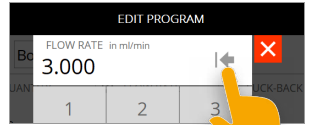

Fig. 40
- ▶ You can clear the set value using the arrow button. Touch and hold the arrow key to clear the value more rapidly (Fig. 40, Touch and hold).